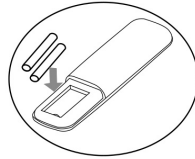

Fig.2
- Insert two new batteries, paying attention to the polarity (fig.2).